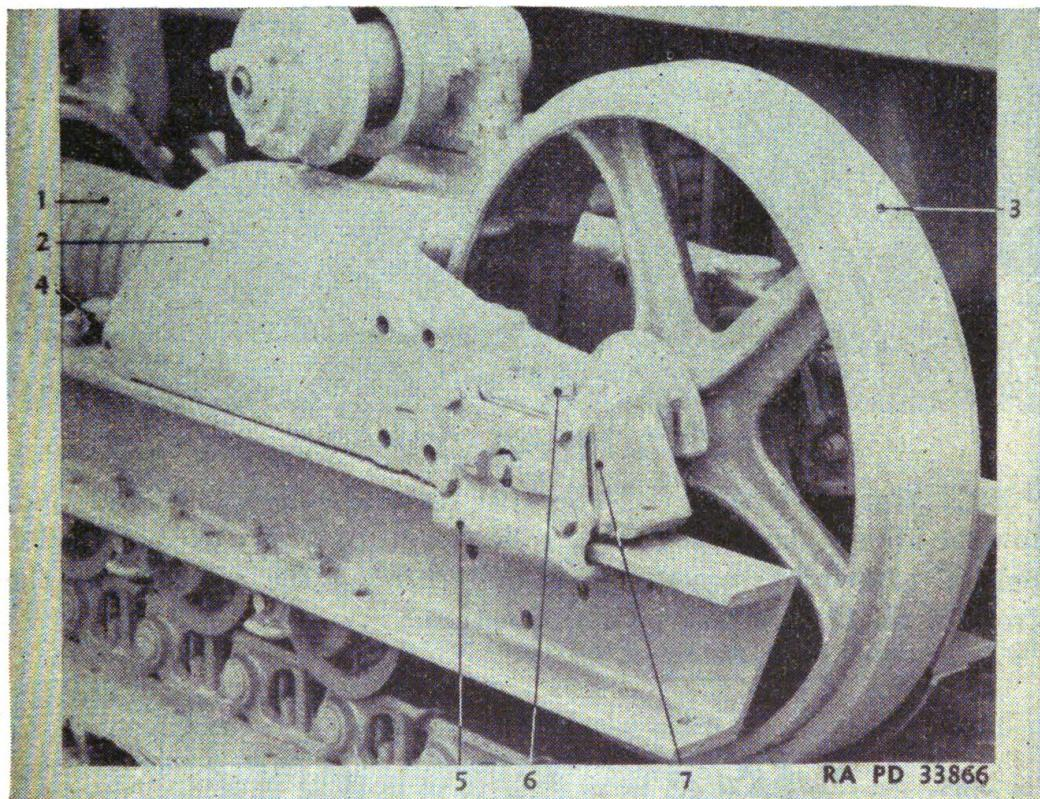

FIGURE 149.—Front idler assembly.
134. General.—The front idler is used to maintain proper tension in the track and to guide the track. Turning adjusting nut (9) (fig. 150) moves recoil spring (1) (fig. 149), idler yoke (2), and idler (3) forward or backward on the roller frame. The idler and yoke move back against the compression of spring (1) when an obstruction is encountered at the front of the track assembly. Guides (4) and (5)
135. Bushings, shafts, and thrust washers.—The bushings and shafts can be removed as recommended for track rollers after setscrew (6) (fig. 149) is removed from each end of the idler shaft.
136. Idler yoke.—*a.* The idler yoke should have from $\frac{1}{8}$ - to $\frac{3}{16}$ -inch side movement on the roller frame. Amounts in excess should be reduced by removing shims (7) (fig. 149).